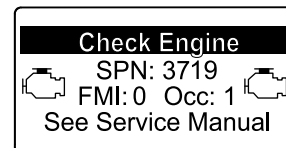

Figure 59
- If a recovery regeneration is needed, the InfoCenter displays engine warning SPN 3719, FMI 16 (Figure 59) and the engine computer derates engine power to 85%.